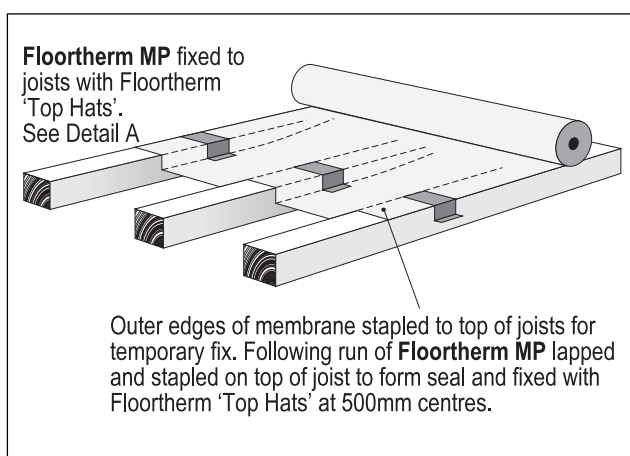
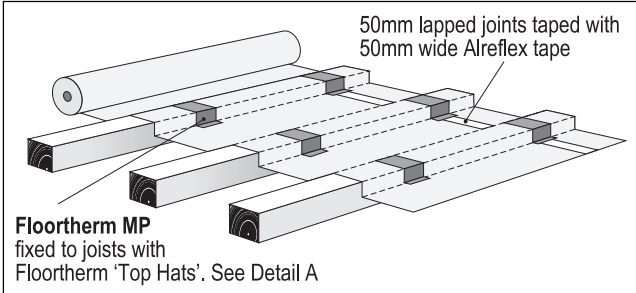
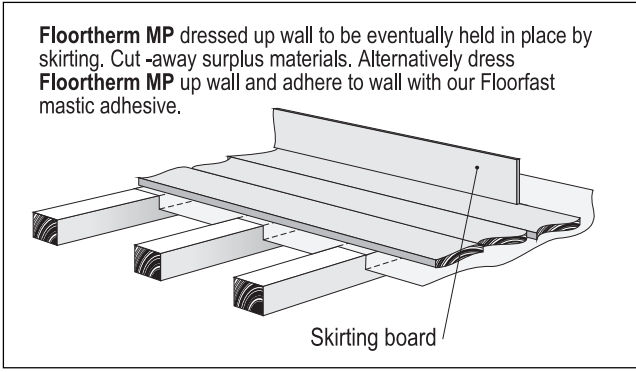

Fig. 1
Fig. 2
Fig. 3
A) PARALLEL TO TIMBER JOISTS (see fig. 1)
1) After allowing for dressing membrane up wall as shown in fig. 3 roll out continuously along the joists as shown in fig. 1.
2) Line up the outer edges of the membrane with the outer edges of the joists as shown and temporarily staple to the top of the outer joists only at 250mm approx. After allowing for dressing up opposite wall (see fig. 3) cut to length.
4) At the other perimeter edges of the floor – where the Floortherm is running across the joists – the membrane should be dressed up the wall as shown in fig. 3. TE 'Top Hat' channels must be used to fix Floortherm MP to the joists to ensure required min 25mm** air gap beneath floor is maintained.
5) The flooring should be installed by fixing through the Floortherm onto the battens taking care that the material is left protruding above the floor to be eventually held behind the skirting board as shown in fig. 3.
B) ACROSS TIMBER JOISTS (see fig. 2)
6) After dressing membrane up wall (see fig. 3) roll out across the joists as shown in Fig. 2.
7) Fix the Floortherm MP to the joists with Floortherm 'Top Hats' as shown and detailed in Detail A. Pin the membrane to the sides of the joists close to the edge of the membrane and at 300mm centres approx. After fixing the membrane to the sides of all the floor joists dress up the opposite wall as fig. 3 and cut to length.
9) At the other perimeter edges of the floor – where the Floortherm MP is running parallel to the joists – the membrane should still be dressed up the wall similar to fig. 3.
Seal Floortherm MP against perimeter walls above floor by fixing behind skirting boards as shown in fig. 3 or/and seal to wall with our mastic adhesive Floorfast.